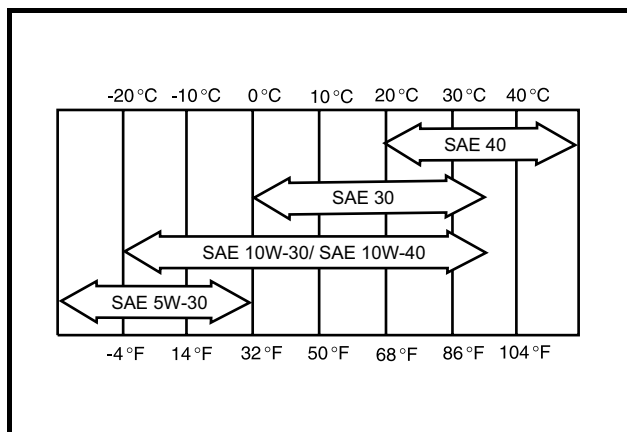

Figure 31 Oil Viscosity Chart
13. Remove the dipstick and add engine oil into the dipstick port. Use a funnel or pour spout to direct the oil into the dipstick port. With filter change, the engine requires 38 ounces (1.12 liters) of oil per change. Refer to oil viscosity guidelines for selection of oil grade (**Figure 31**). Replace the dipstick.
Choose the viscosity according to the temperature as indicated by the oil viscosity chart (**Figure 31**). See following **NOTE**.